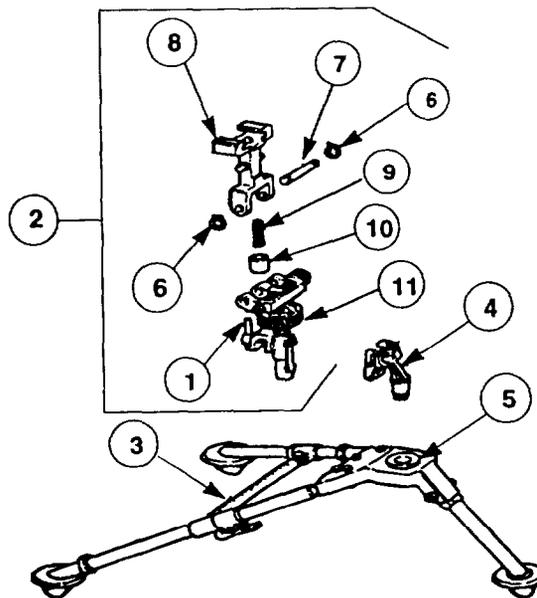

Figure 1
- a. Disassembly: Remove the following parts in accordance with subsequent instructions and Figure 1: